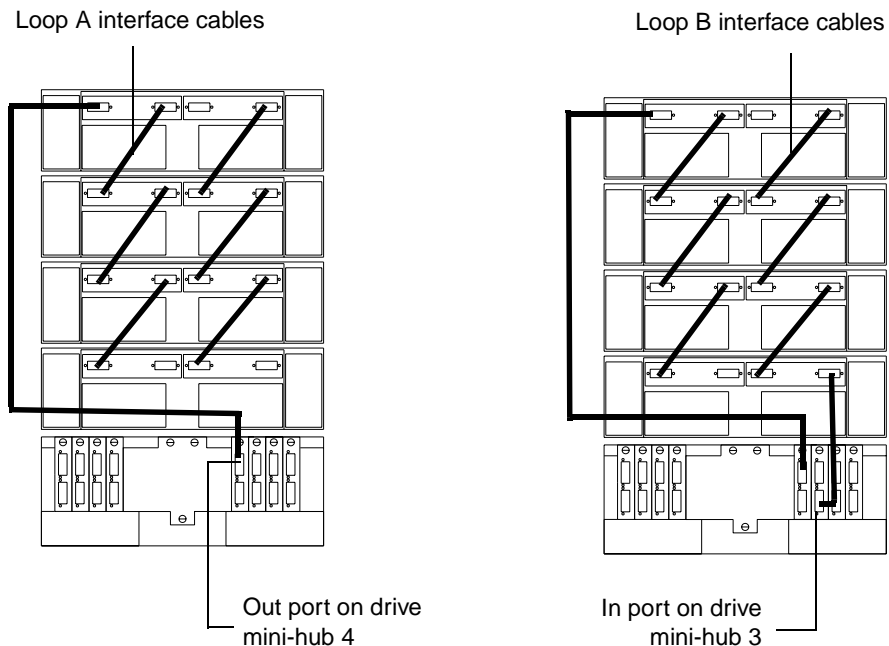

Figure 21. Cabling redundant drive enclosure loops to the controller unit
- 1 Connect drive Loop A to the controller unit, as shown in Figure 21.
- 2 Connect drive Loop B to the controller unit, as shown in Figure 21.